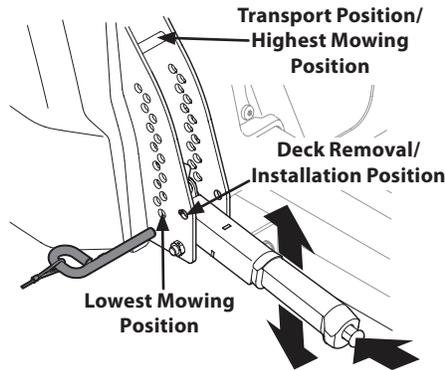

Figure 4-13
- a. Using the deck lift handle, raise the deck to the position that provides the most horizontal run of the belt between the deck idler pulleys and the PTO pulley on the bottom of the engine. See Figure 4-13.
- d. Lower the deck into the deck removal/installation position using the deck lift handle. See Figure 4-13.
- e. Lower the deck into the deck removal/installation position using the deck lift handle. See Figure 4-13.
- Place the deck lift handle in the highest mowing position. See Figure 4-13.